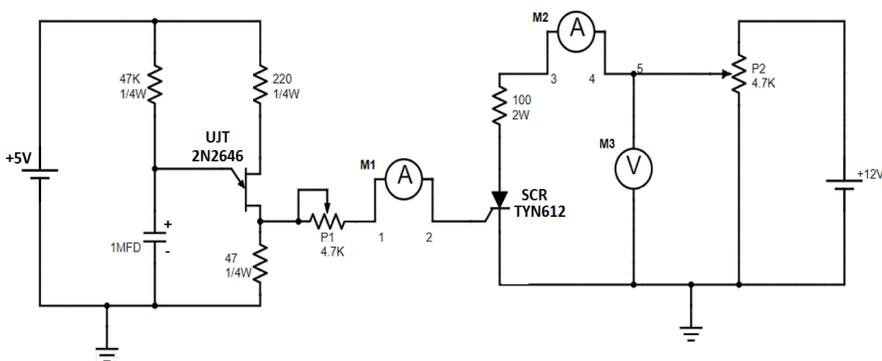

Figure 16
1. Connect the circuit, as shown in Figure 16, using patch cords.